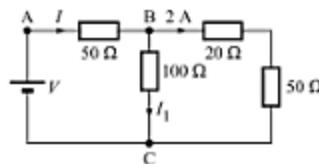

Fig. 2.44
18. Find the voltage  $V$  for the circuit shown in Fig. 2.44.